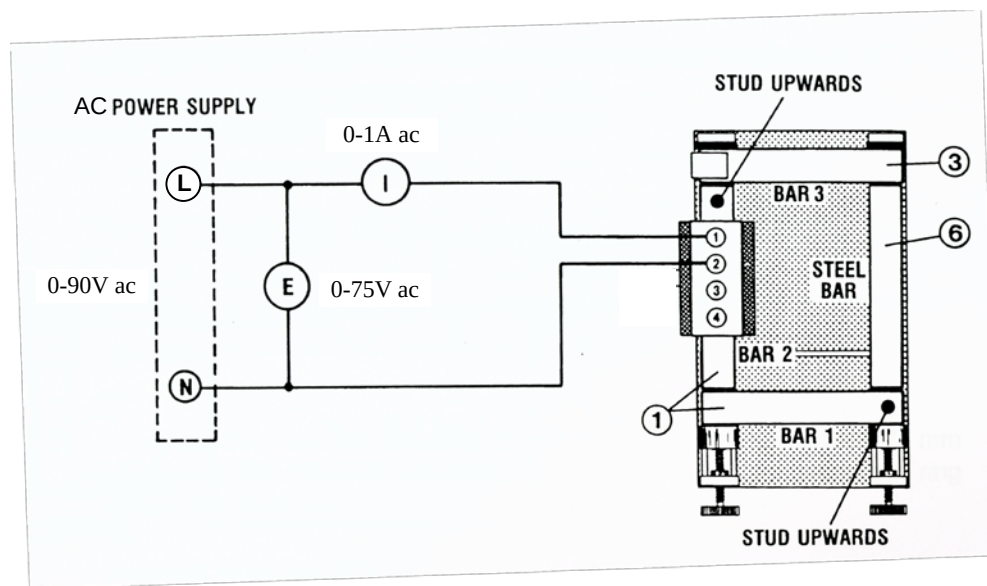

Fig. 4 Circuit for observing the effect of a solid steel bar on electromagnetic induction
3. Set up the circuit of Fig 4 using a 133 mm solid soft steel bars instead of a laminated bar. Tighten the screws.